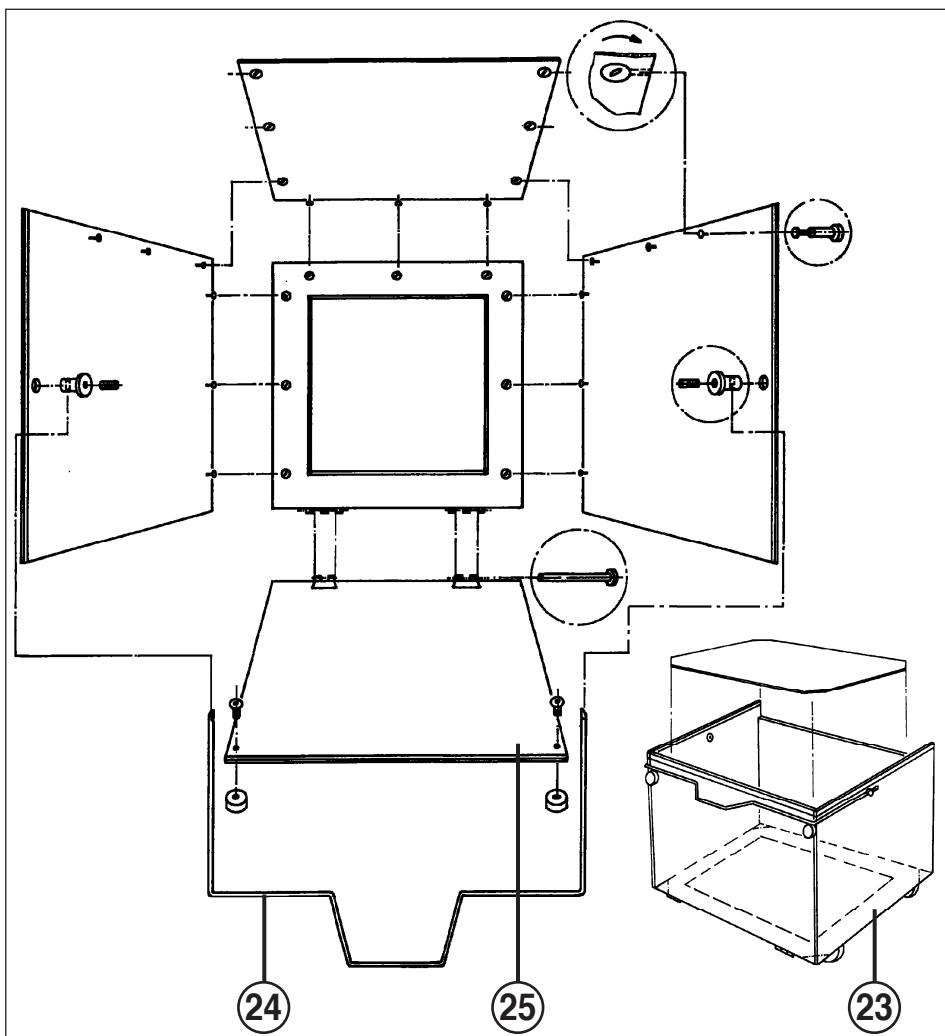

Fig. 4
- 23 = Shredder bin (fig. 4)
- 24 = Shredder bin stirrup (fig. 4)
- 25 = Shredder bin front panel (fig. 4)
SHREDDER BIN (23) (Fig. 4):